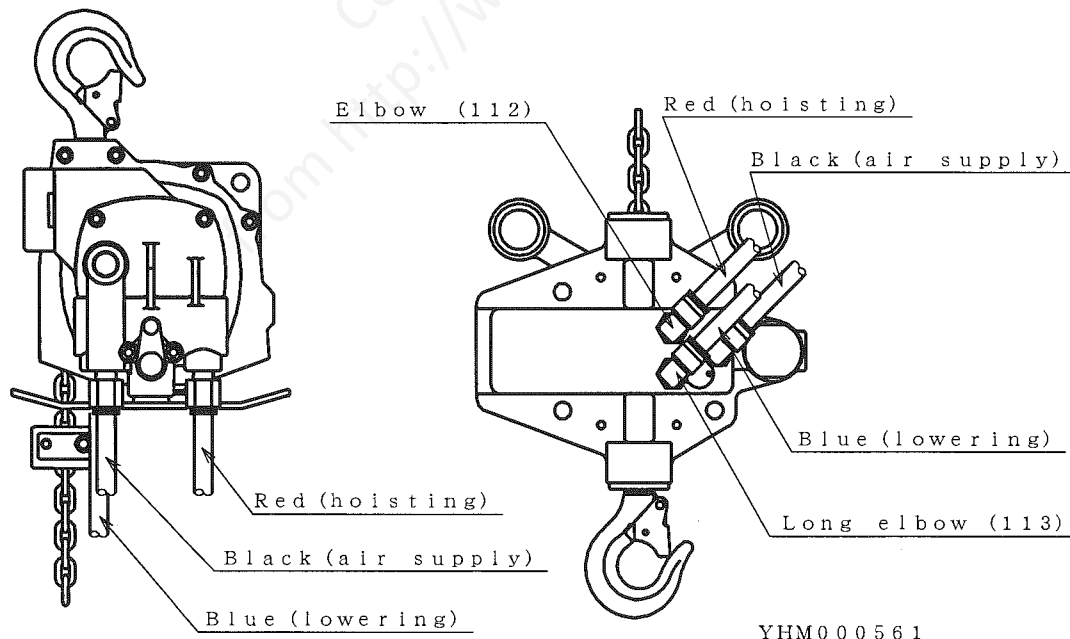

Fig.12.
-14) Connect Coil hose according to Fig.12.